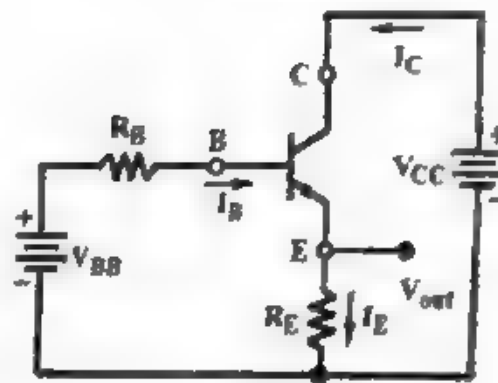

Fig. 5.64
(iii) Common-collector (CC) Configuration – In this configuration, the transistor is connected with collector as a common terminal as shown in fig. 5.64. The input is applied between the base and collector terminals. The output is taken between emitter and collector terminals.